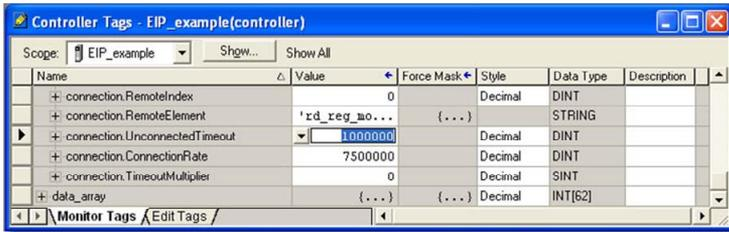

Figure 84: Reduce the UnconnectedTimeout Value
- e) Select the “Monitor Tags” tab. Expand the “connection” tag by clicking on the “+” sign next to the tag name. Scroll down to the connection.UnconnectedTimeout field and change its value from the default 30000000 (30s in 1uS increments) to 1000000 (1s). This value determines how long to wait before timing out and retransmitting a connection request if a connection failure occurs. Refer to Figure 84.